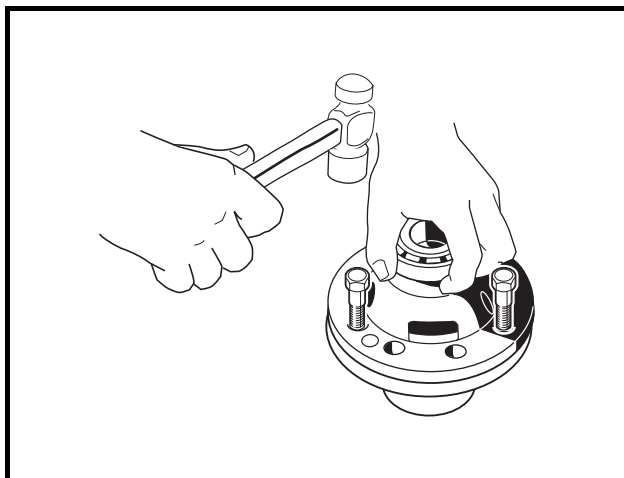

Figure 16-14 Separate Housing
- 8.3. Separate the differential gear case housing. If necessary, install two of the hex bolts (removed previously in step 8.1) into the differential gear unit and, while holding the unit slightly above the work area, lightly tap the bolt heads (**Figure 16-14, Page 16-8**). Remove the two bolts.